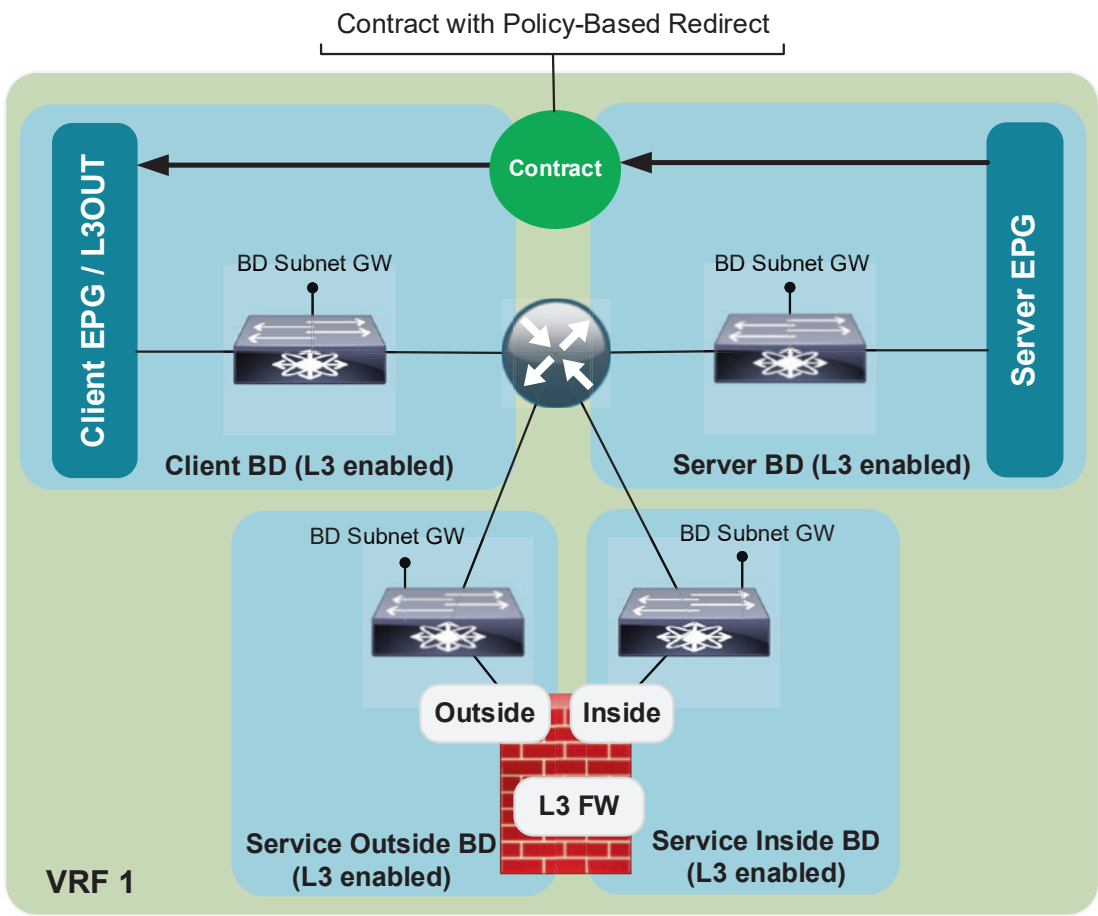

Figure 8-9. Routed policy-based redirect with bridge domain
- a. **Policy-Based Redirect with Service Bridge Domains:** The standard PBR model, where L4-L7 device connectors must be part of their own service bridge domain in L3 mode. You can use either a two-arm (as shown in Figure 8-9) or a one-arm connection with just one service BD. The source and destination endpoints can belong to internal as well as external L3OUT EPGs, so this approach is universally suitable for east-west and north-south traffic. Besides a single VRF for all bridge domains, PBR supports inter-VRF connectivity as well, with a design rule that the L4-L7 device and its interfaces have to be part of a consumer or provider VRF (or both). It just cannot be placed in the third, non-related VRF.